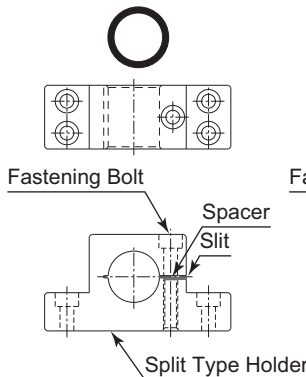
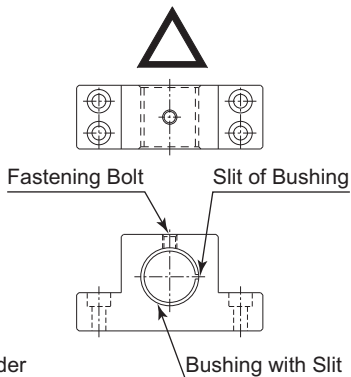

Fig. 7
Fig. 8
- ② When installing a Spindle to the holder, recommended installation method is shown Fig. 7. Refer to " ③ How to fabricate the Split Type Holder ". If this is not possible, install as shown in Fig. 8.